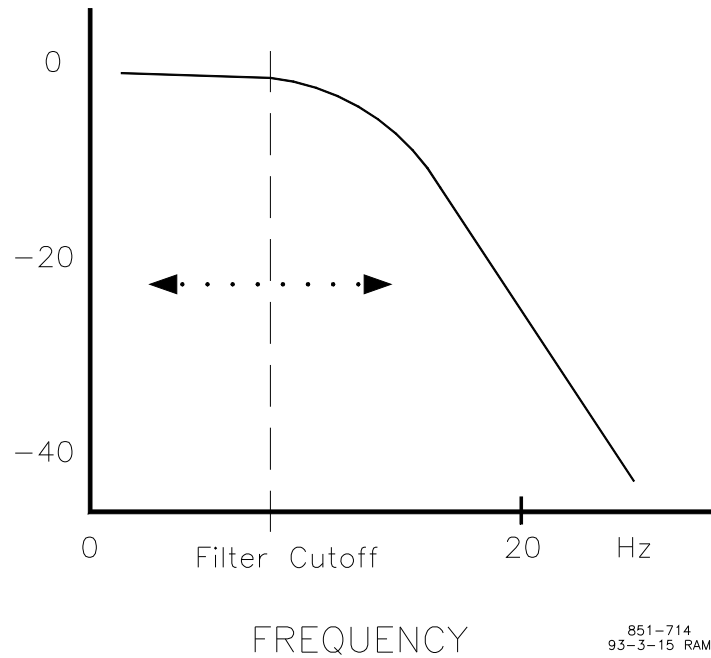

Figure 4-5. Speed Filter
8. **SPEED FILTER** adjusts the cutoff frequency of a low pass filter used on the speed sensing input (see Figure 4-5). To use this feature set **SPEED SETTING MENU - ENABLE SPEED FILTER** to TRUE. The filter is used to attenuate engine firing frequencies. To calculate the desired filter cutoff point, use the following formulas:
15. **SPEED FILTER FREQ** is the cutoff frequency of a low pass filter used on the speed sensing input (see Figure 4-5). To use this feature set the cutoff frequency below 15.915 Hz. The filter is used to attenuate engine firing frequencies. To calculate the desired filter cutoff point, use the following formulas: